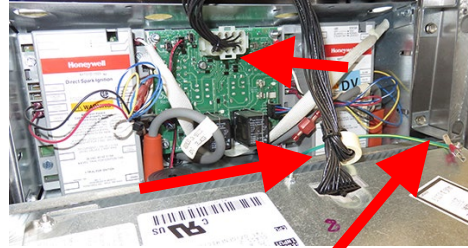

Figure 1
3. Lower the controller and disconnect the harnesses from the controller and the interface board (see Figure 1).